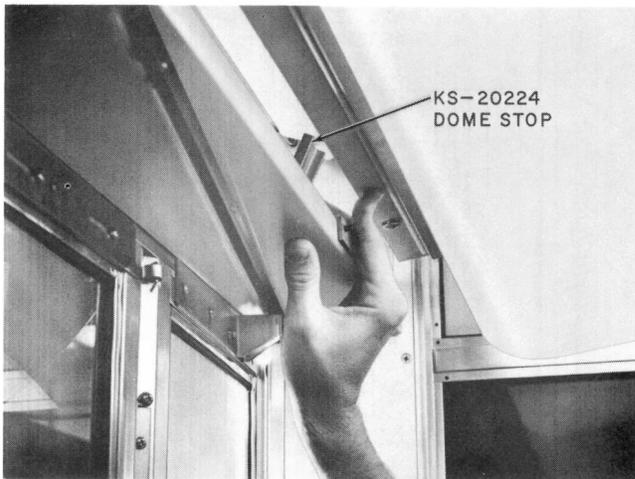

Fig. 4—Releasing Dome Stop
**2.10** To lower the dome, push up on dome stop as shown in Fig. 4. After dome is lowered, release the stop.